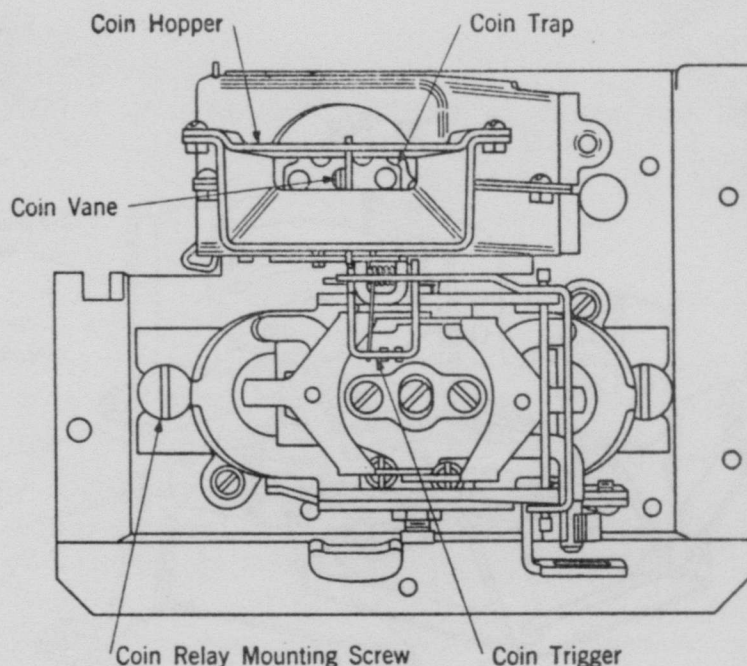

Fig. 14.
5.09 The operating arm when in the normal position shall bring the coin vane in a vertical line so that the thickness of the vane may be seen through the center hole of the coin trap. See Fig. 14. To adjust, proceed as follows: